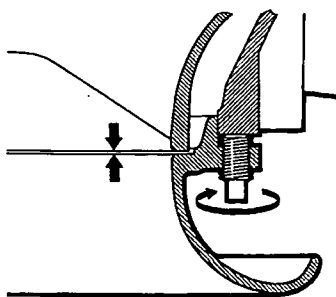

Fig. 17
4. Slacken the fixing screws and open the clearance to 0.7 mm \pm 0.2 mm by tightening the three adjusting screws, see fig. 17. Check that the clearance is equal all around the suction opening.